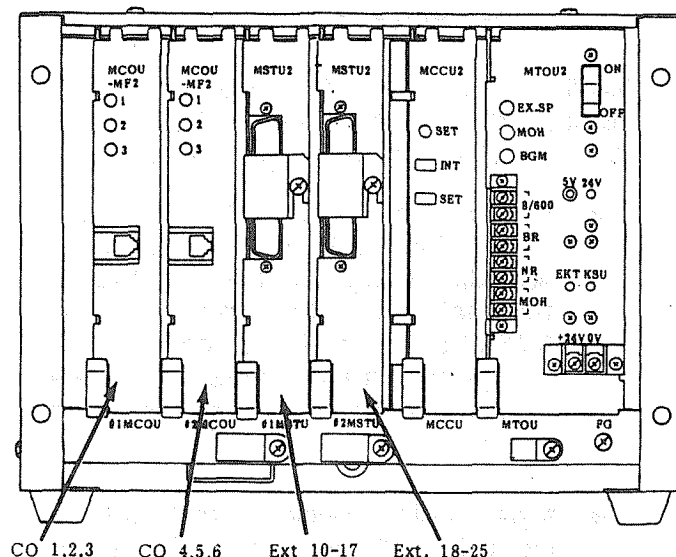

FIGURE 6
06.12 Install the MTOU PCB in the MKSU as shown in Figure 6.